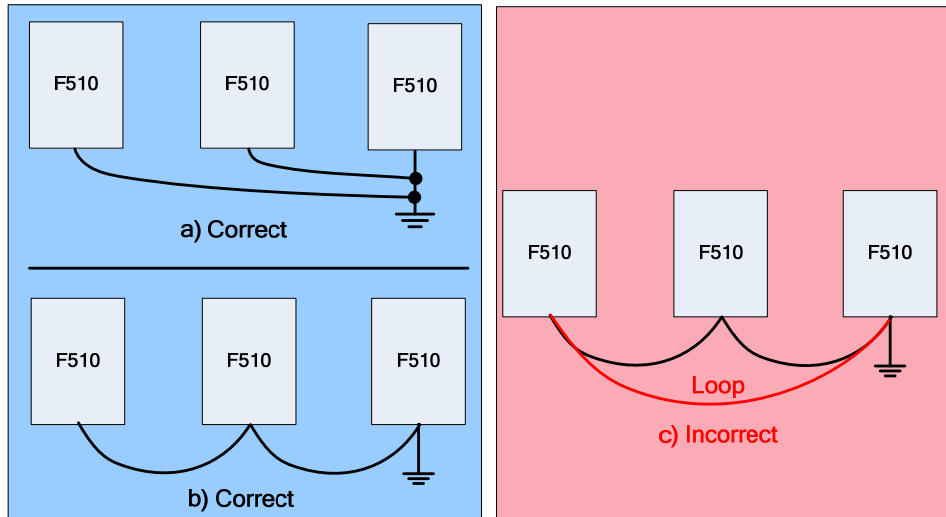

Figure 3.3.7.2 F510 Inverter Grounding
- (1) Connect the ground terminal (E) to ground having a resistance of less than 100Ω.
- (2) Do not share the ground wire with other devices, such as welding machines or power tools.
- (3) Always use a ground wire that complies with the local codes and standards for electrical equipment and minimize the length of ground wire.
- (4) When using more than one inverter, be careful not to loop the ground wire, as shown below in Fig. 3.3.7.2.